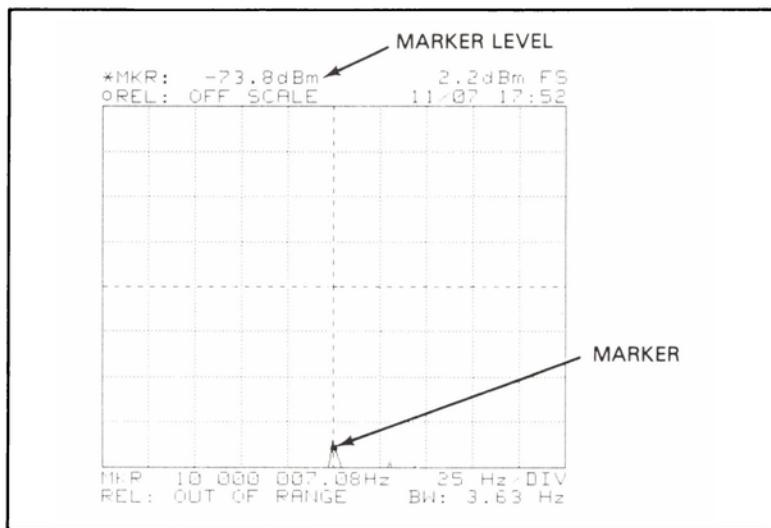

Figure 7-10. Image Rejection Test Sample Results
i. Check that the -hp- 3582A marker level is \leq -70 dBm (See Figure 7-10). Record the level on the Performance Test Record card.